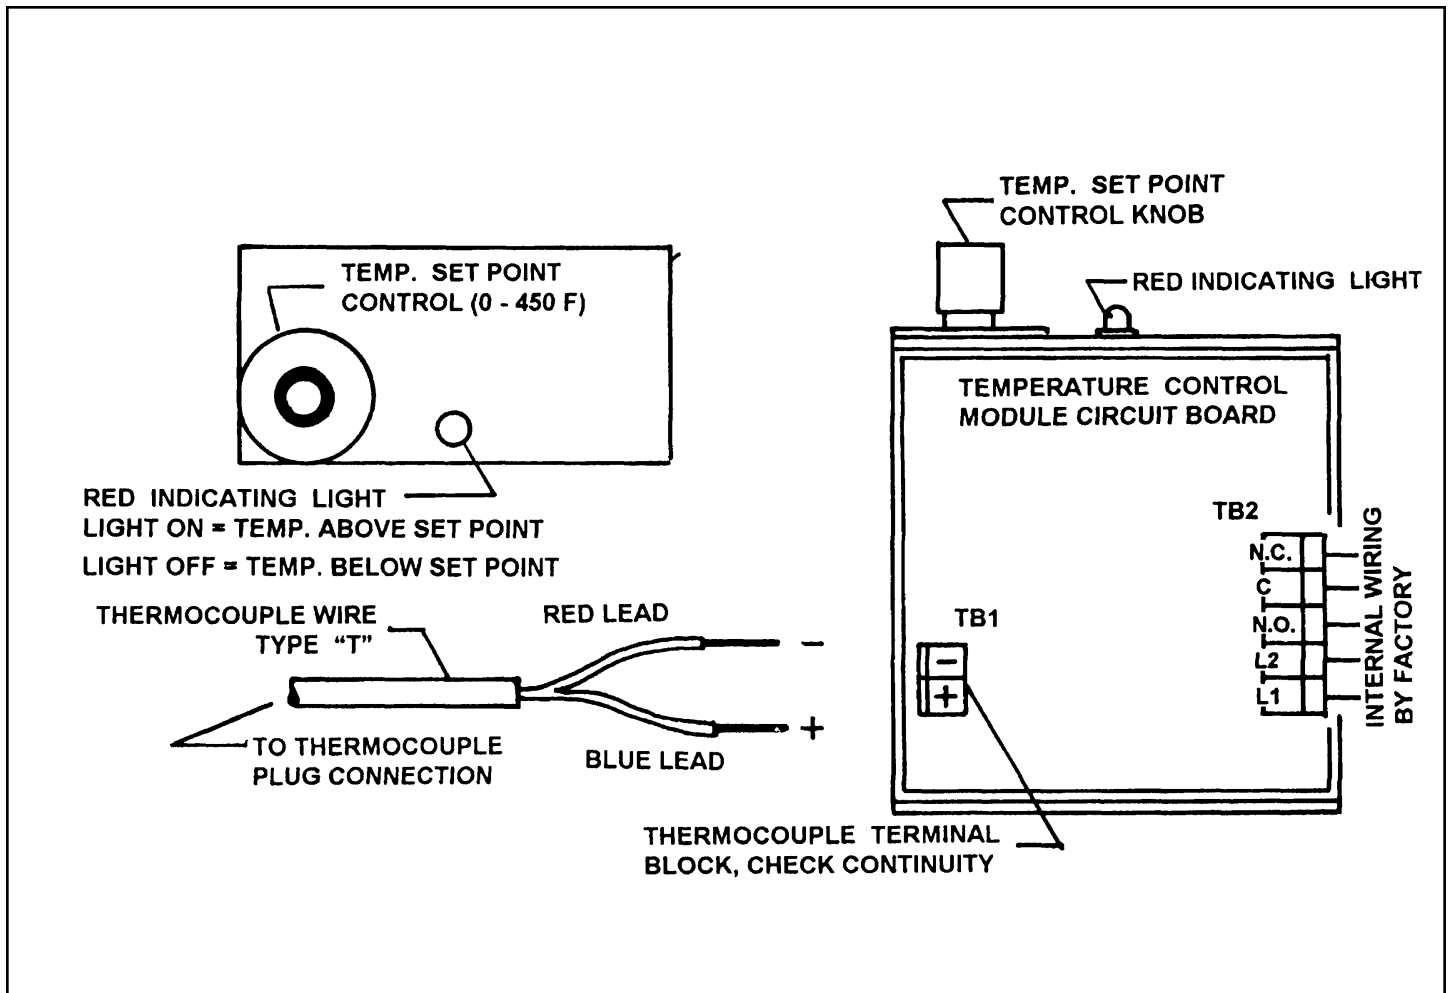

Figure 11
Note: Thermocouple connections are made at the top of the temperature switch on terminal block TB1. To make the connections remove the temperature switch off of the DIN rail and tip the switch for access to TB1. If necessary TB2 can be unplugged to remove the switch. (see figure 11, page 12)
- 12.1** Turn the temperature switch calibration dial to the desired alarm point for each monitored bearing. Each temperature switch can be calibrated to a different temperature if monitoring different types of bearings. (see figure 11, page 12)
(see figure 11, page 12)